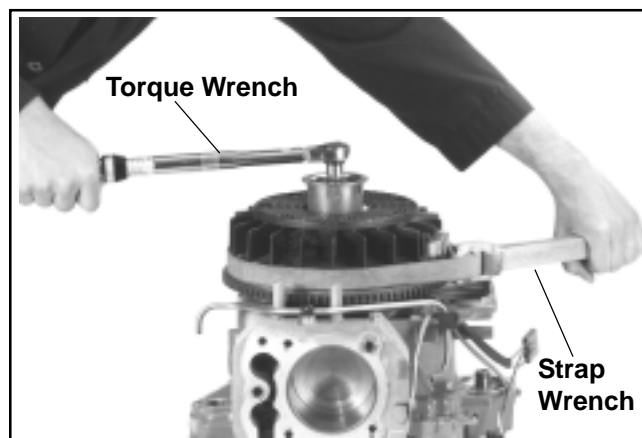

Figure 11-31. Torquing Flywheel Fastener (Retractable Starter Models).
- Hold the flywheel with a strap wrench or holding tool (see Section 2) and torque the hex. flange screw to **66.4 N·m (49 ft. lb.)**. See Figures 11-31 and 11-32.